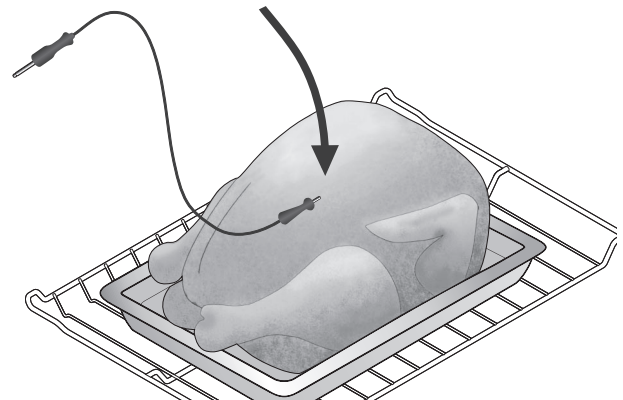

Figure 29: Probe in thickest part breast
- For whole poultry or turkey, fully insert the probe sensor into the thickest part of the breast (See Figure 29).